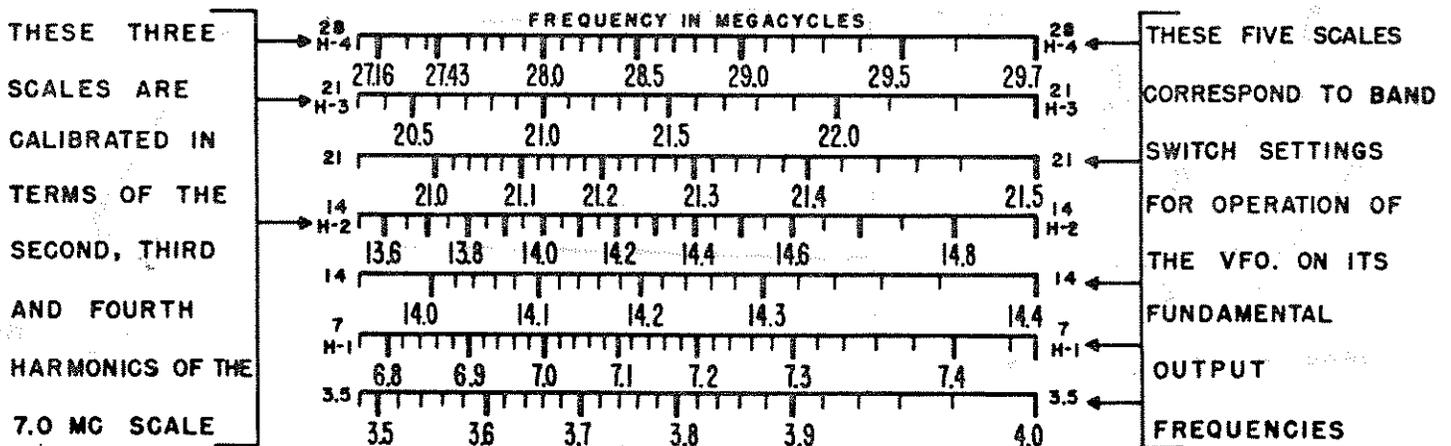

Figure 4. Dial Scale Calibrations
V.F.O. Operation - Set OPERATION switch at M.O., BAND SELECTOR control for the band of frequencies required to obtain the desired output frequency from the final amplifier stage of transmitter being driven by the HT-18. For example, if a doubler stage follows the HT-18 unit, then the HT-18 output will have to be one-half the frequency of the final amplifier stage, etc. Referring to Fig. 4, you will note that there are five calibrated scales showing the output frequency of the V.F.O. unit. These five scales indicate carrier frequency when the transmitter being driven does not have a frequency multiplier stage. In addition to the five fundamental scales, there are three scales which are multiples of the 6.8 to 7.4 mc. scale. The harmonic scales indicate carrier frequency only when the output of the HT-18 is in the 6.8 to 7.4 mc. band. When the transmitter being driven has a doubler stage use the H-2 scale, a tripler stage use the H-3 scale, or a quadrupler or two doubler stages use the H-4 scale. To set the V.F.O. unit to the receiver frequency, set the CHECK switch handle at